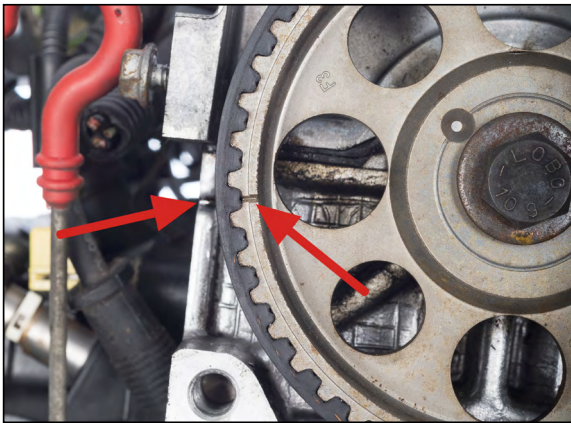
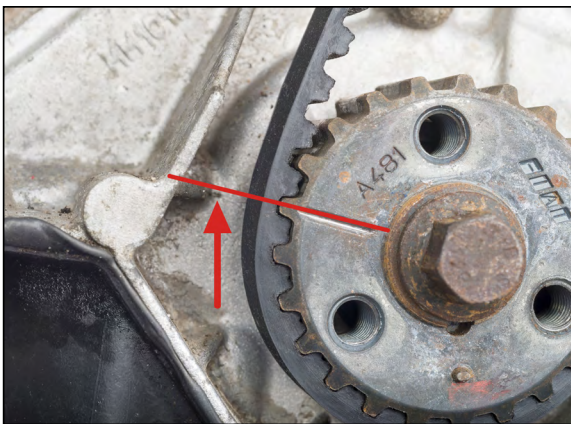

Fig. 3
Fig. 4
2. Mark (notch) at approx. 9 o'clock position on camshaft sprocket must align with notch in cylinder head (Fig. 3).
3. Check position of crankshaft. Crankshaft sprocket mark (notch) must align with mark (notch) at approx. 9 o'clock position on engine housing (Fig. 4).
6. Set valve timings to TDC mark of cylinder 1. Setting as for items 2 and 3 of Removal above. Mark (notch) at approx. 9 o'clock position on camshaft sprocket must align with notch in cylinder head (Fig. 3). Check position of crankshaft. Crankshaft sprocket mark (notch) must align with mark (notch) at approx. 9 o'clock position on engine housing (Figs. 4, 16).